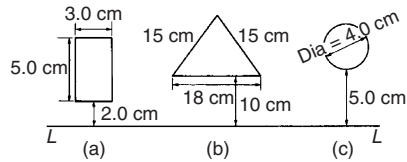

Figure 7.23
5. For each of the areas shown in Figure 7.23 determine the second moment of area and radius of gyration about axis  $LL$ , by using the parallel axis theorem.